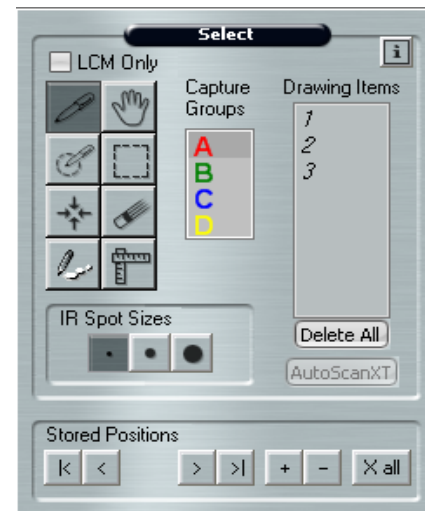

Figure 3 Select tools pane.
To view tool tips hover the stylus or mouse over the item of interest on the screen. In the example shown in Figure 3, placing the cursor over the hand displays a message indicating that this tool moves the stage.
- Click the Information button (i) in the upper-right corner of the tool selection pane (see **Figure 3**).